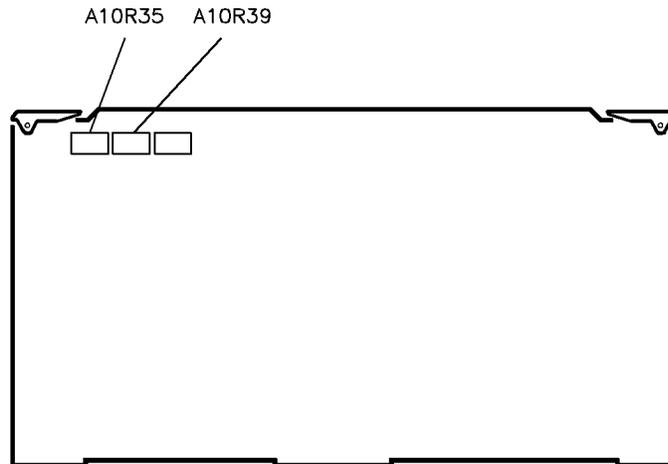

Figure 3-29. A10R35 and A10R39 Locations
15. Adjust A10R35, EXP AM CAL, for a -10 dB power meter reading. See Figure 3-29 for the location of A10R35.
21. Adjust A10R39, LIN AM CAL, for a 0.126 mW (4.00% relative) reading. See Figure 3-29 for the location of A10R39.